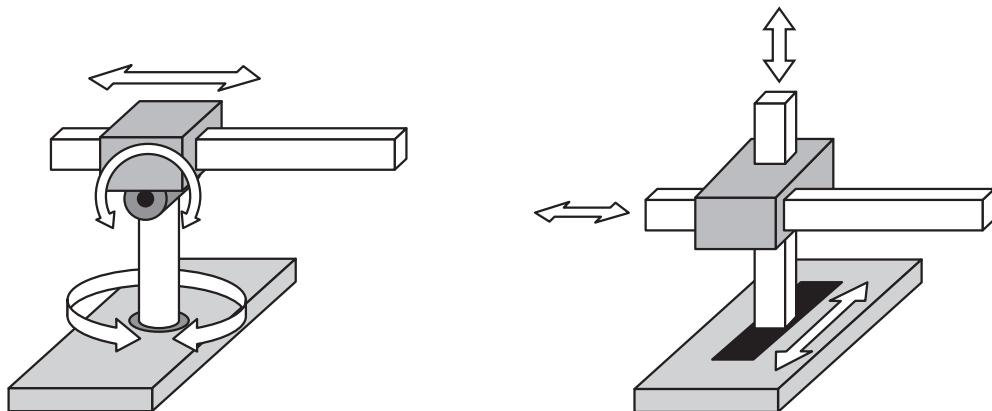

Figure Q4(a)
4. (a) On **Worksheet Q4**, state the type of **each** robot in Figure Q4(a). 1
- (b) On **Worksheet Q4**, for the cylindrical and SCARA robots shown in Figure Q4(b), sketch **each** work envelope. 2